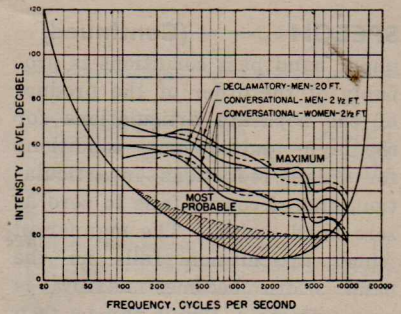

Fig. 6. Intensity Levels in 1-second Intervals in Critical Frequency Bands for Typical Speech.
Fletcher has given the maximum intensity levels in critical frequency bands for conversational speech of men and women and for declamatory (loud) speech¹ and these have been reduced to the indicated distances and are plotted in Fig. 6 along with the median population hearing contour under conditions of no noise. The corresponding most probable intensity levels, which are exceeded 50 per cent. of the time, have been computed, and are also shown in Fig. 6 because they are thought to be the most representative "average" levels under the assumed condition.¹⁰ It will be noted that they are from 7 to 16 db below the maximum levels. The cross-hatched portion of the diagram represents the loss of auditory area due to the masking effect of the average residential noise level of 43 db.* Sounds whose intensity levels fall into the cross-hatched area would not be heard due to masking. Levels which lie below the threshold hearing contour will not be audible to the average listener. It will be observed that both hearing and masking limit the perceivable frequency range at the high-frequency end somewhat for the assumed speaking levels and distances. As the speaking level is lowered, the effect is to
It is evident from an inspection of the intensity level curves of Fig. 6 that they can be represented quite well by straight lines drawn so as to average the deviations, especially in the significant portion of the range above about 300 cycles. The slopes of these lines are very nearly the same and values for the entire frequency indicate that the intensity levels fall, on the average, from 5.3 to 6.5 db per octave as the frequency increases. As we shall see later, this falling characteristic creates a special problem when it is necessary to reproduce intelligible speech in the presence of very high noise levels.
Fig. 12 shows the plots on the Fletcher-Munson loudness computation chart⁹ for declamatory speech on both types of transmission systems, taking the intensity levels to be the same at 2000 cycles and 35 db above the normal level shown in Fig. 6, and using the most probable (50 per cent.) values. The noise masking is that corresponding to a sound level meter reading of 75 db (with 40 db weighting) and typical spectral distribution. The loudness in loudness units (LU) is proportioned to the area under the curve. When noise is present, the loudness of the speech corresponds to the area above the masking curve for the noise. The loudness units (LU) are numbers which represent the magnitude of the sensation due to sound.⁶ If the sound intensity is increased so as to double the number of loudness units, it will sound twice as loud as before. To aid the reader in correlating these numbers with sensory impressions, it may be noted that the tick of a watch close to the ear has a loudness of 1000-2000 LU. Conversational speech is commonly experienced at loudness ranging from perhaps 2000 to 25,000 LU. Sounds which